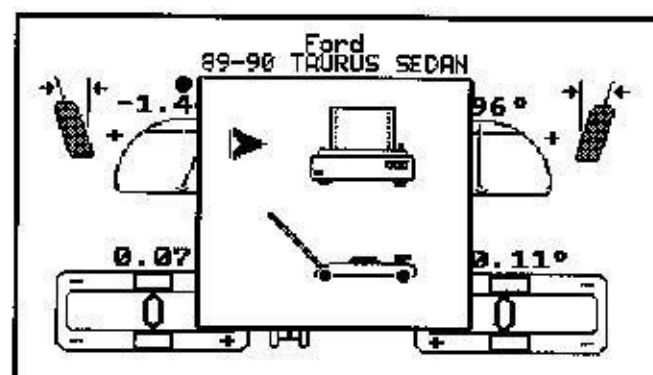

Figure 2-31
To access any available option, press the **OPTION** key from any meter screen. The option menu will appear (see Figure 2-31).
1. Access printer by pressing the **OPTION** key from any meter screen. The option menu will appear (see Figure 2-31). Use the **ARROW** keys to move the cursor to point to the printer icon. Then press **ENTER**.